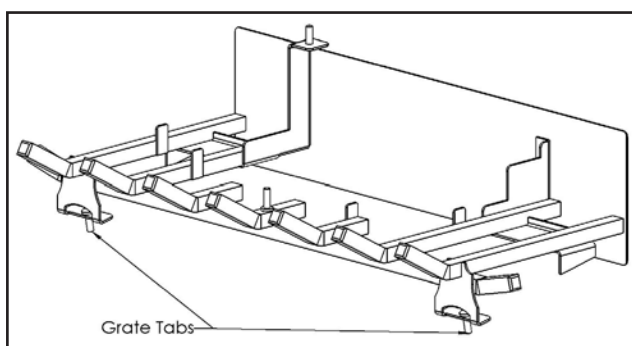
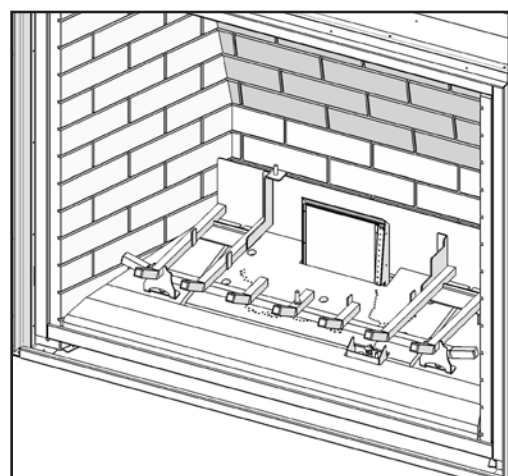

Figure 20: Tab on Firebox Grate.
Figure 21: Firebox Grate in Place.
4. The firebox grate has two (2) tabs that run below the feet of the grate (see Figure 20), place the grate over the burner top and carefully inserting the grate tabs into the slots on the burner (see Figure 21). Once the grate is installed correctly, the burner, grate, and side burner accents will be all locked together.